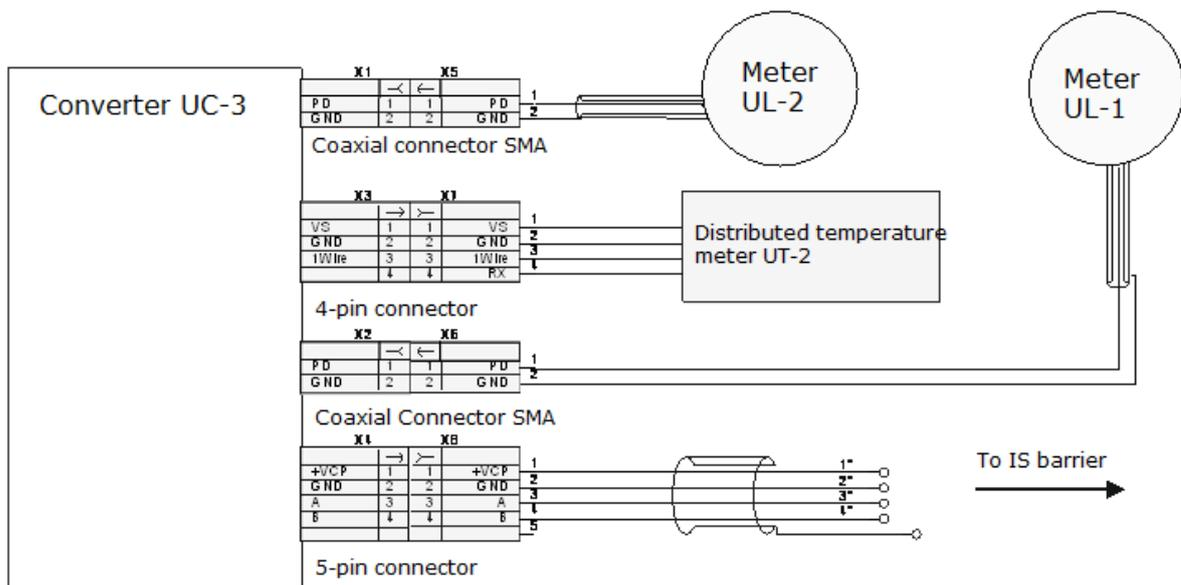

Fig. 3 - Connection diagram of the AlphaSonic-30 model transmitter
- **AlphaSonic-30** – 2 meters without a temperature transmitter, a distributed temperature meter and a converter (Fig. 3).